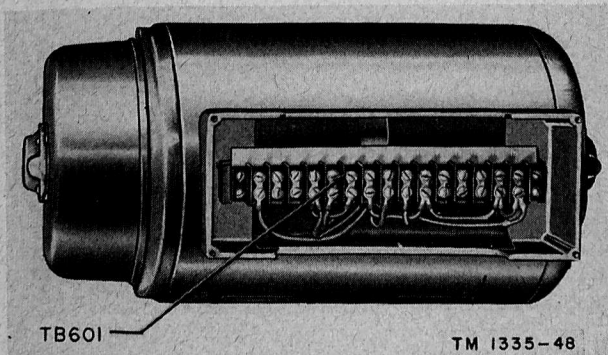

Figure 44. D-c motor-generator, terminal board TB601.
- (1) Connect 16 of the 19 conductors of cable W701 to terminal board TB601 (fig. 44). For long cable runs connect the spare conductors in parallel with the 400-cycle line (a(3) above).
- (2) Connect cable W710 to terminals 12 and 14 of terminal board TB601.
- (3) Connect cable W711 to terminals 1, 4, 11, 12, and 14 of terminal board TB601.